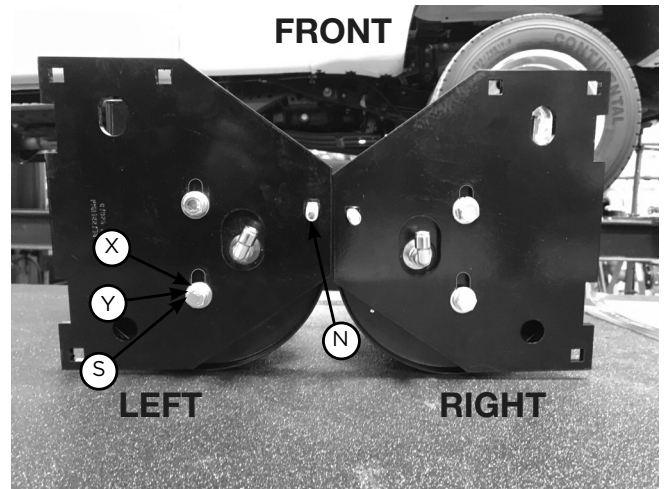

Fig. 7
2. Insert 3/8"-16 x 1 1/4" carriage bolts (N) into the square holes on the brackets, then secure the upper air spring bracket (E) onto the top of the air springs using 3/8"-24 x 7/8" hex bolts (X), 3/8" lock washers (Y) and 3/8" flat washers (S). At this stage, the air spring assemblies are left- and right-hand units. Push the brackets as far forward as possible (Fig. 7). Torque the hardware to no more than 20 lb.-ft. (27Nm).